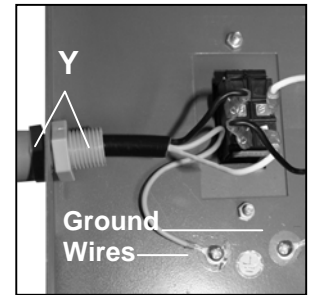

Figure 13
Take the single black power cord and insert the black, white and green wires through the three parts of the cable bushing (Y) before inserting them through the front panel of the stand. (Figure 13) **Do not tighten the bushing until the wires are connected to the proper terminals.** Once the wires are inserted through the front panel, insert them through one of the holes in the switch cover. (The cover has been removed in Figure 13 to better show the connections to the terminals.) Be sure the clear plastic insulation stays with each wire. Once the wires are through, pull some of the black cable through as well. This will make it easier to connect the wires to the terminals.
Attach the black wires to the terminals on one side of the switch, and the white wires to the terminals on the other side. The green Ground wires are connected directly to the steel side panel with a nut, bolt and washer on each. The Ground symbol \oplus is located in the center of two holes, which are covered by stickers. Remove the stickers, insert a bolt with the ground wire attached through each, and apply the washer and nut. Once tightened, the Ground wires use the steel structure of the machine to ground the electric. (Figure 13)